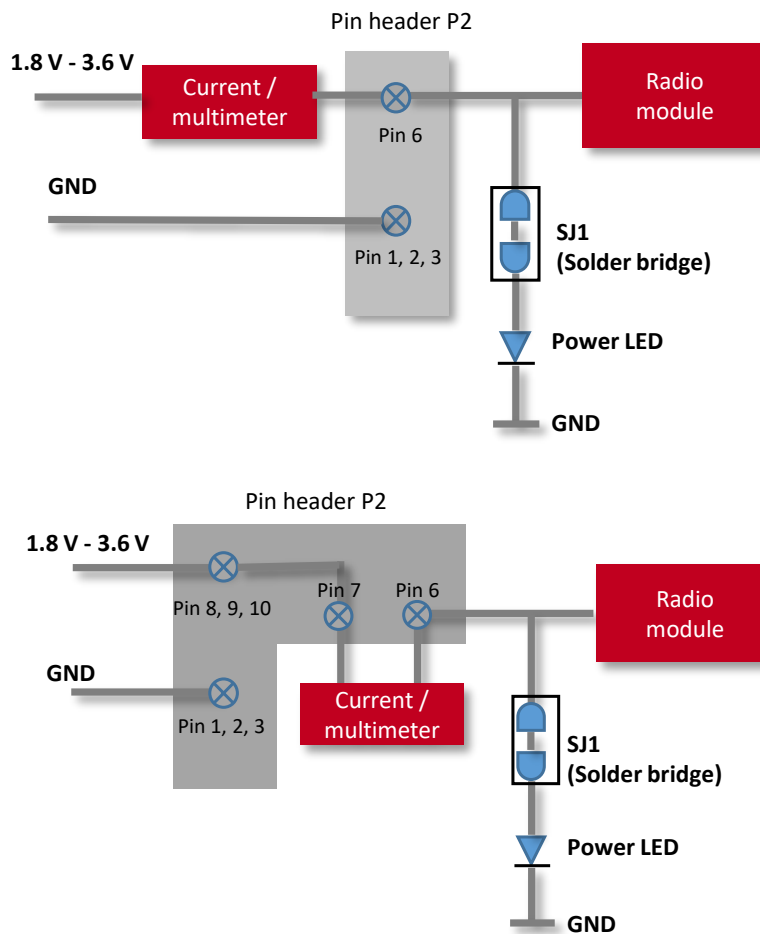

Figure 10: Power supply corresponding to table 21 No 3
1.8 V-3.6 V is connected either directly to Pin-6 (*VDD_MOD / V_IN*) and the current is measured in series as illustrated in the upper picture of Figure 10.
Or it is connected to Pin 8-10 (*V_EXT / SUPPORT PINS*) and the current is measured on header P2 Pin 7 (*V_EXT / SUPPORT PINS*), which is internally connected with Pin 8, 9, 10 to Pin 6 (*VDD_MOD / V_IN*) as illustrated in the lower picture of Figure 10. With SJ1 open the LED is not lighting but the current is measured corrected.